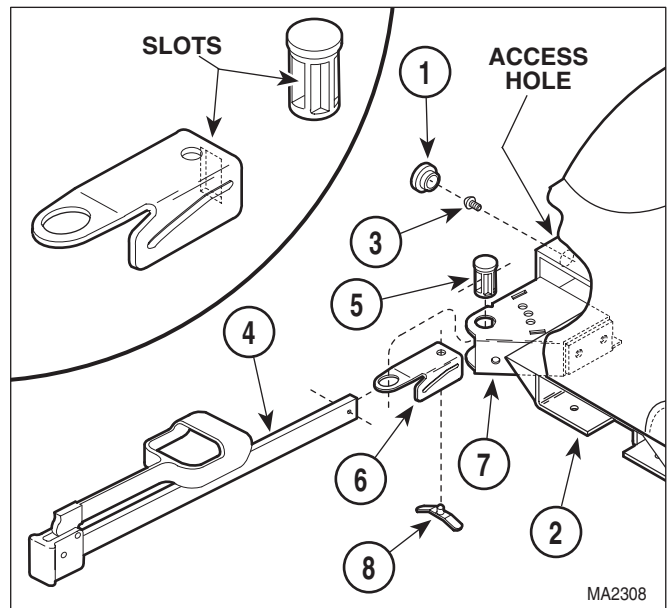

Figure 4-30. Stirrup Assembly And Components Removal / Installation
- (1) Remove hole plug (1, Figure 4-30) from access hole in seat weldment (2).
- (2) Insert screwdriver in access hole and remove screw (3) from stirrup assembly (4).
- (3) Pull stirrup assembly (4) out of pivot boss (5).
- (4) Remove pivot boss (5) and stirrup guide bracket (6) from stirrup mount weldment (7).
- (5) If damaged, remove stirrup index spring (8) from stirrup guide bracket (6).